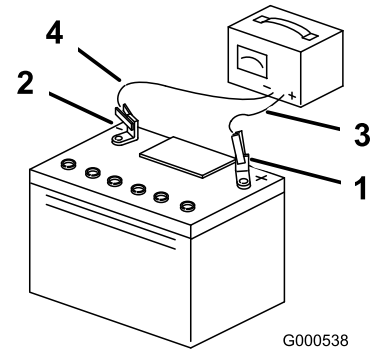

Figure 40
3. When the battery is fully charged, unplug the charger from the electrical outlet, then disconnect the charger leads from the battery posts (Figure 40).